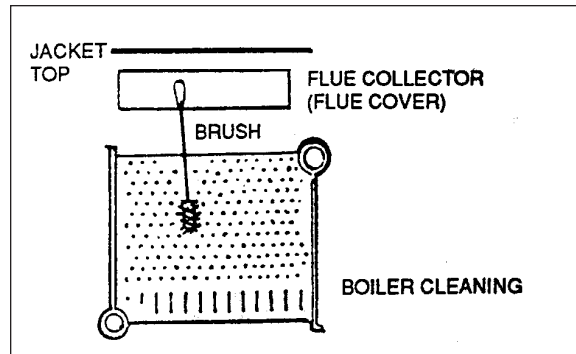

Figure 13.
4. Burner and boiler flue passage cleanliness: **BURNER AND FLUE CLEANING** (see figure 13). It is suggested that paper be placed on burners to collect any foreign material when cleaning flues.